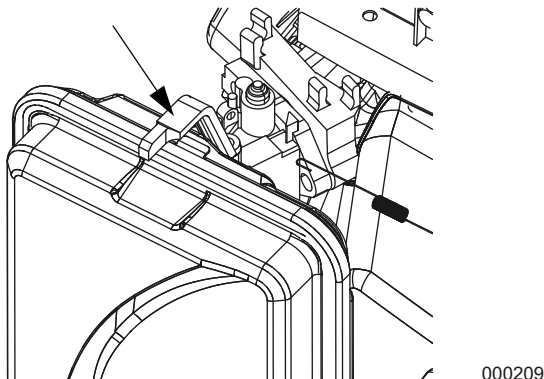

Figure 3-3. Choke Location
2. Move the choke lever to the START position (left) (Figure 3-3).